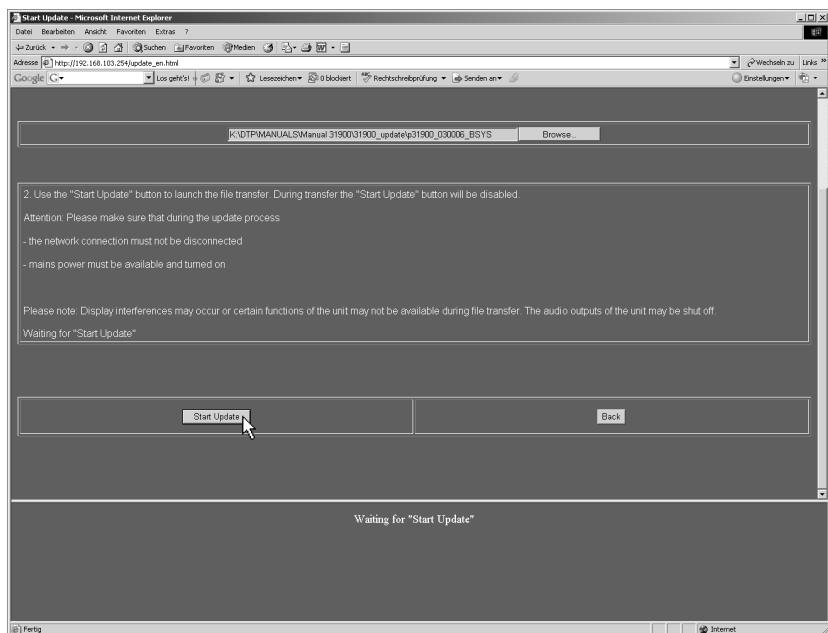

Fig. 8-8: Starting the update process with the selected update file
6. Press **Start update** to start the update process (see Fig. 8-8). **Please make sure that no interruption of the network access or supply power occurs during the download sequence.**